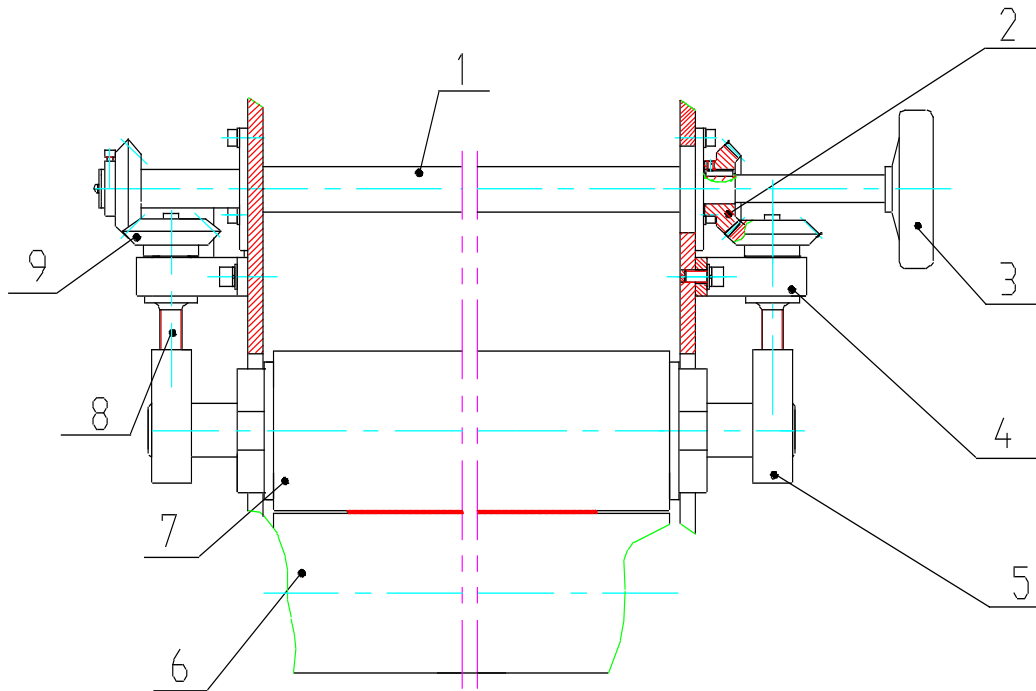

Figure 13
- **Adjustment methods for the space between the two rollers: (please refer to Fig 13)**